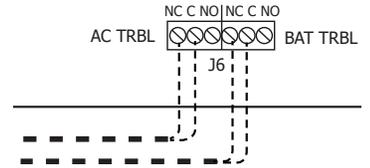

Figure 7: AC and Battery Trouble Relay Connections
1. Connect the **AC TRBL** supervisory relay output terminals marked **NC** and **C** to the control panel. See Figure 7.